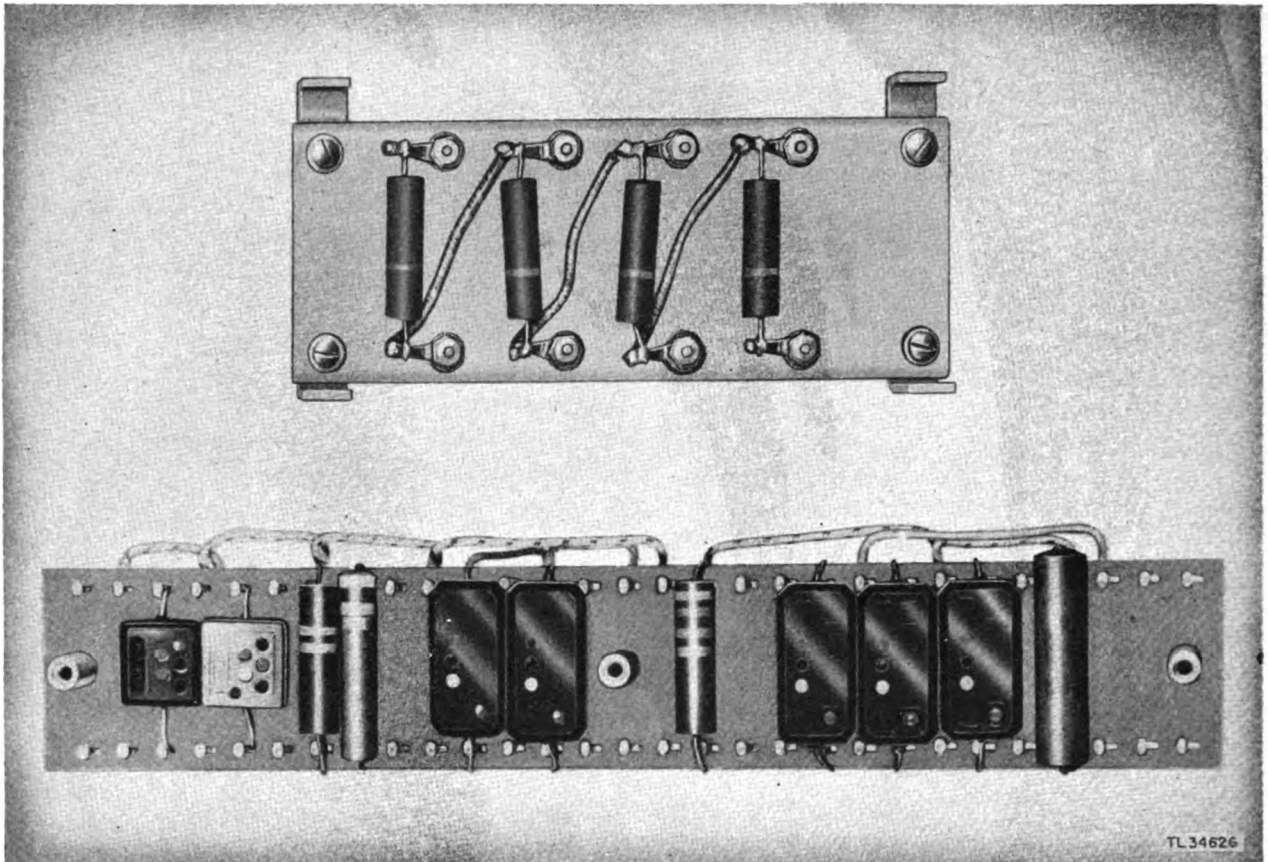

Figure 5. Terminal strips.
c. CLEAN (C). The contact surface of wire-wound resistance windings should be cleaned. The sliding contact, the body of the rheostat, of potentiometer, and the connections, are to be cleaned when found in a dirty or corroded condition. Remove the lubricant and dirt from the rheostat or potentiometer parts with carbon tetrachloride. Clean corroded surfaces of contacts with crocus cloth. Do this by inserting a strip of crocus cloth between the arm and the winding and draw the cloth back and forth.
d. ADJUST (A). The contact arm should be adjusted if it does not have sufficient tension to insure positive contact. Use a pair of long-nosed pliers to spring it slightly at the center in the direction in which increased tension is desired. Do not make a sharp bend at any one place. Work the pliers along the length of the contact arm and put a slight bow in its adjustment but be very careful not to damage the winding.
e. LUBRICATE (L). If it is difficult to turn the shaft in its bushing, place a drop or two of light machine oil on the shaft at each end of the bushing. After lubrication make sure the surrounding surfaces are cleaned with a dry cloth.
a. GENERAL. Terminal strips are used as distribution and connecting points for electrical circuits. (See fig. 5.) The simple construction consists of a strip of insulation with screw-type or soldered connections mounted on it.
b. INSPECT (I). The terminal strips must be checked for cracks, breakage, dirt, and loose connectors or mounting screws. Carefully examine the connections for mechanical defects, dirt, or corrosion.
c. TIGHTEN (T). All loose screws, lugs, and mounting bolts must be tightened. When tightening screws be sure to select the proper screw driver and do not exert too much pressure. Do not remove loose connections to clean them unless they are dirty or corroded.
d. CLEAN (C). The terminal strips must be cleaned with a dry brush when they are dusty or dirty. In extreme cases use a cloth moistened with carbon tetrachloride or some other solvent. Following such an operation the board must be thoroughly wiped with a cloth and then brushed to remove the lint.